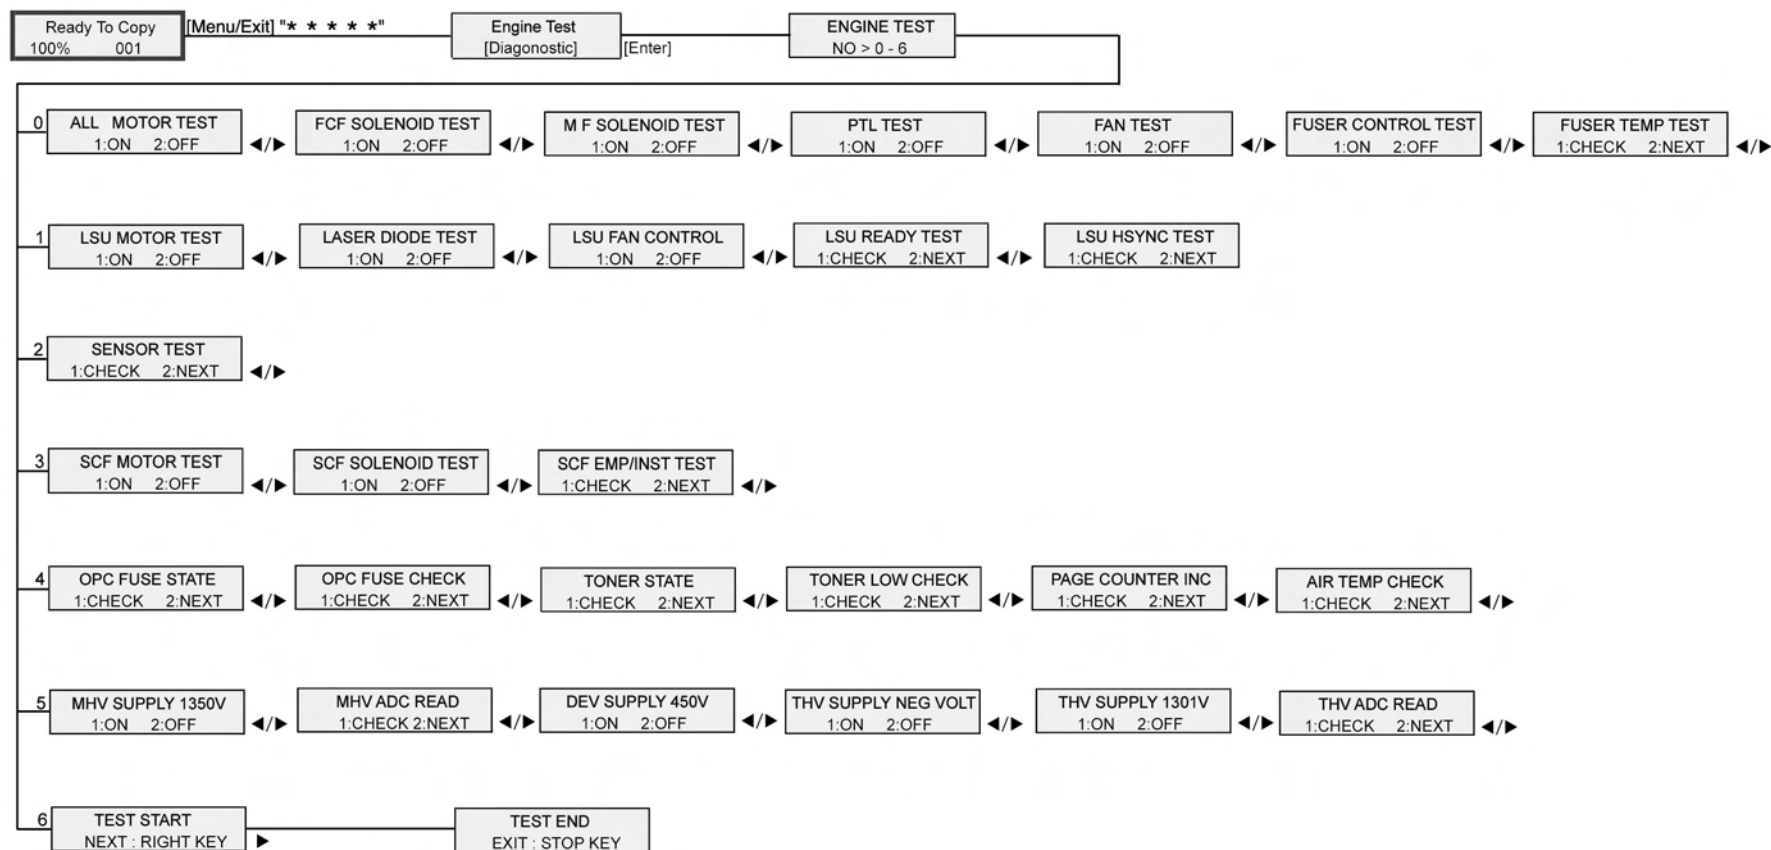

Figure 1 LCD test sequence
3. Use the numbered keys to select the relevant test number. Use the left and right keys to scroll through the available tests, refer to Figure 1. To view details of each test number, refer to Table 1 Test Map.